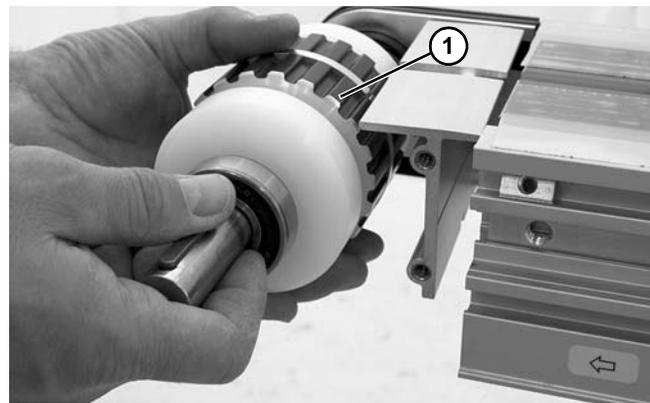

Figure 45
7. Slide the drive pulley (Figure 45, item 1) out of the headplate on the opposite side.